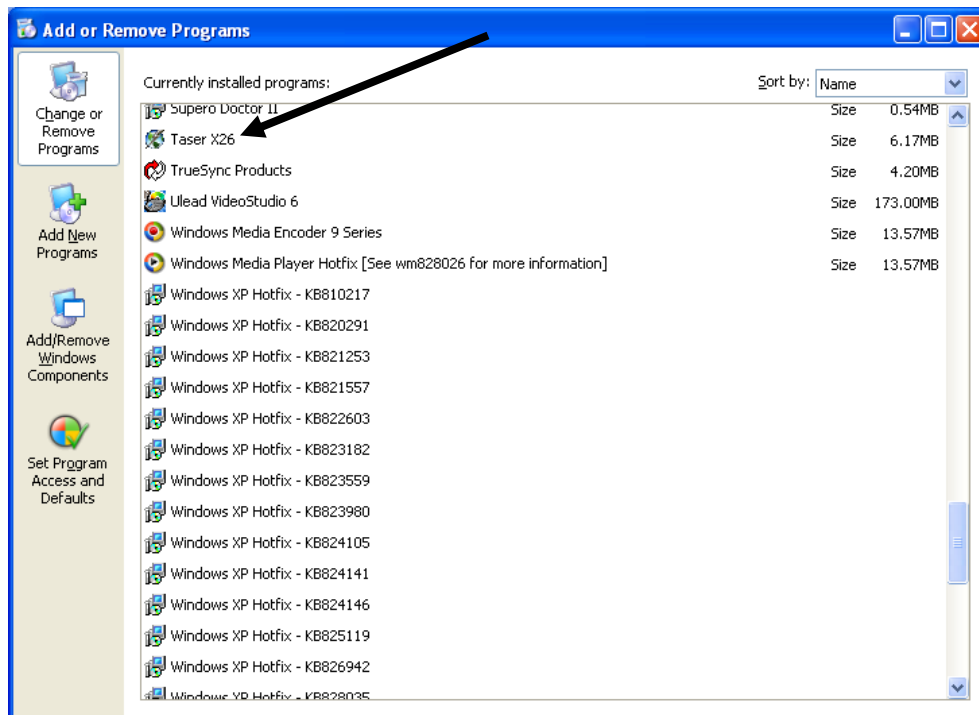

Figure 46
8. Select **Taser X26** on the **Remove Programs** page (Figure 46).